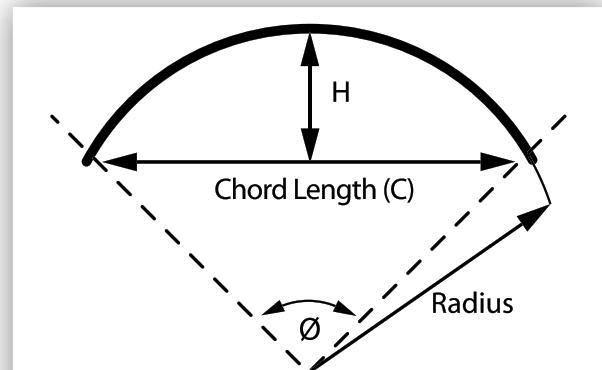

Figure 10: Curvature Measurements
2. Measure the corresponding chord length (C) - refer to Figure 10.
3. Measure the corresponding centre offset (H) - refer to Figure 10.